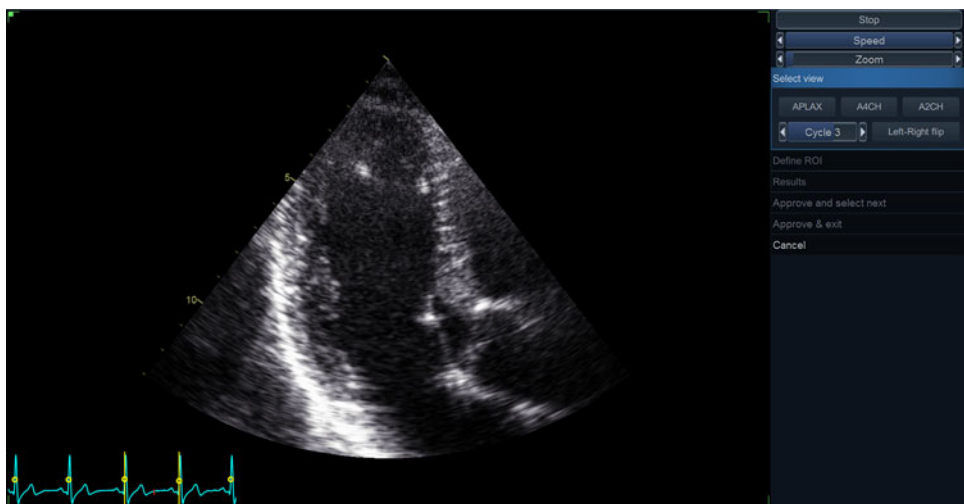

Figure 8-11. Select View stage
2. Press **Measure** on the Control panel and select the **AFI** study. The tool will launch and start up in the Select View stage. (see Figure 8-11).